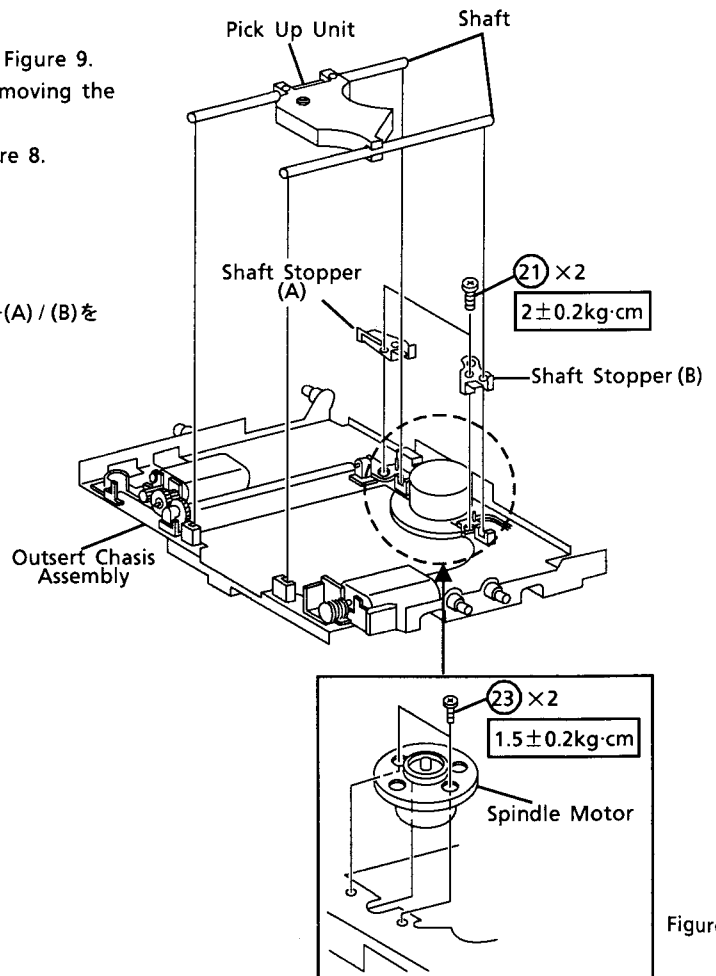

Figure 8
- (2) Remove the Shaft Stopper (A) / (B), by removing the two screws (21) as shown in Figure 8.
- (3) Remove the two Shafts as shown in Figure 8.
- (2) Remove two screws (23) as shown in Figure 8.